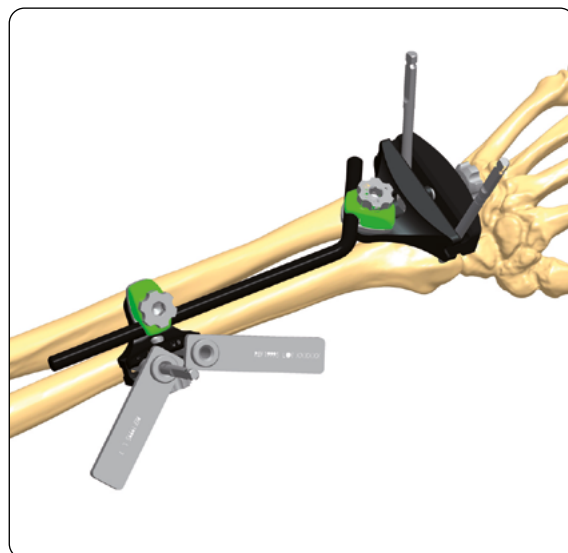

Fig. 37
- Screw insertion must follow one of the techniques described above, paying attention to safe corridors (**Fig. 37**)